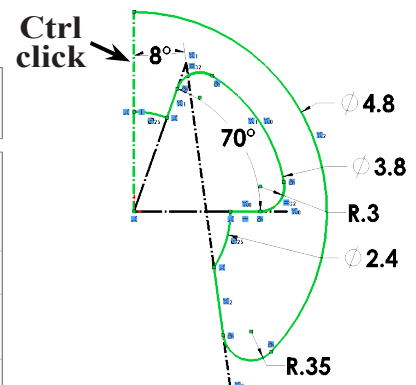

Fig. 18
Step 2. **Ctrl-click** vertical centerlines to add to selection, **Fig. 18**.